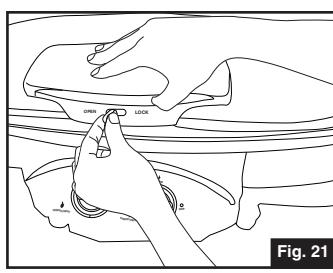

Fig. 21
- To open lid, move lever to OPEN position and lift up. (Fig. 21)